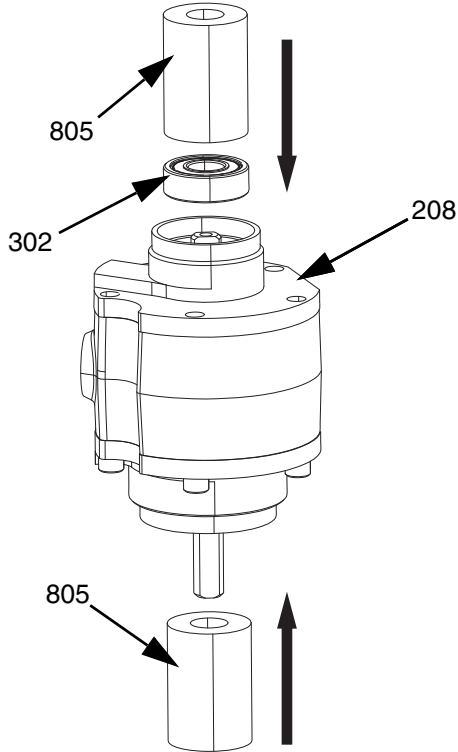

FIG. 19
5. Place the end cap (208) that was removed during disassembly onto the rotor lock side of the air motor housing.
6. Refer to **Figure 19** on page 24, Place one of the two installation tools (805) included in kit 25E508 over the rotor shaft (204) on the drive side of the air motor to protect the shaft.
- Place the air motor in an arbor press with the rotor lock side of the motor shaft facing upward vertically and use the other installation tool to press the new bearing (302) into the end cap (208).